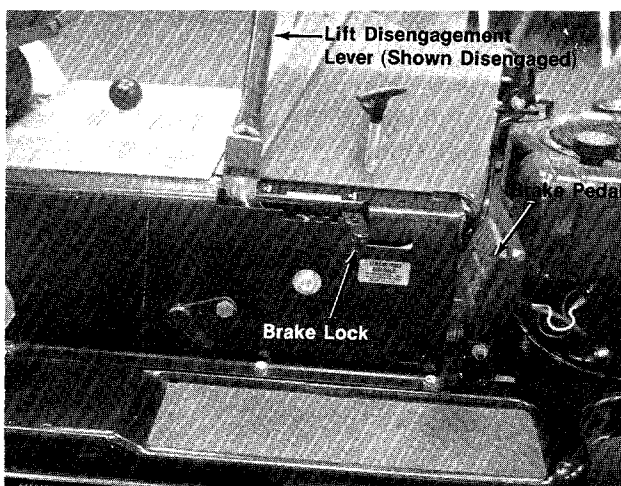

FIGURE 8. RIGHT HAND CONTROLS
c. **Brake.** The brake pedal is located on the right hand side of the mower and is operated by depressing it with your right foot. See figure 8.
d. **Brake Lock.** The brake lock is located on the right hand side of the mower. To lock the brake, depress the brake pedal and lift up the lock button. The pedal will stay depressed. To release, depress the pedal. See figure 8.
l. Lift and Disengagement Lever. It is used to raise the cutting deck. Pulling it all the way back and locking it disengages the blades. The engine will not start unless the lift and disengagement lever is in the disengaged position. See figure 8.
Step 3. Place the lift and disengagement lever in the **DISENGAGED** position. See figure 8.
To stop the blades, move the lift and disengagement lever (figure 8) into the DISENGAGED position. This raises the deck and disengages the blades.